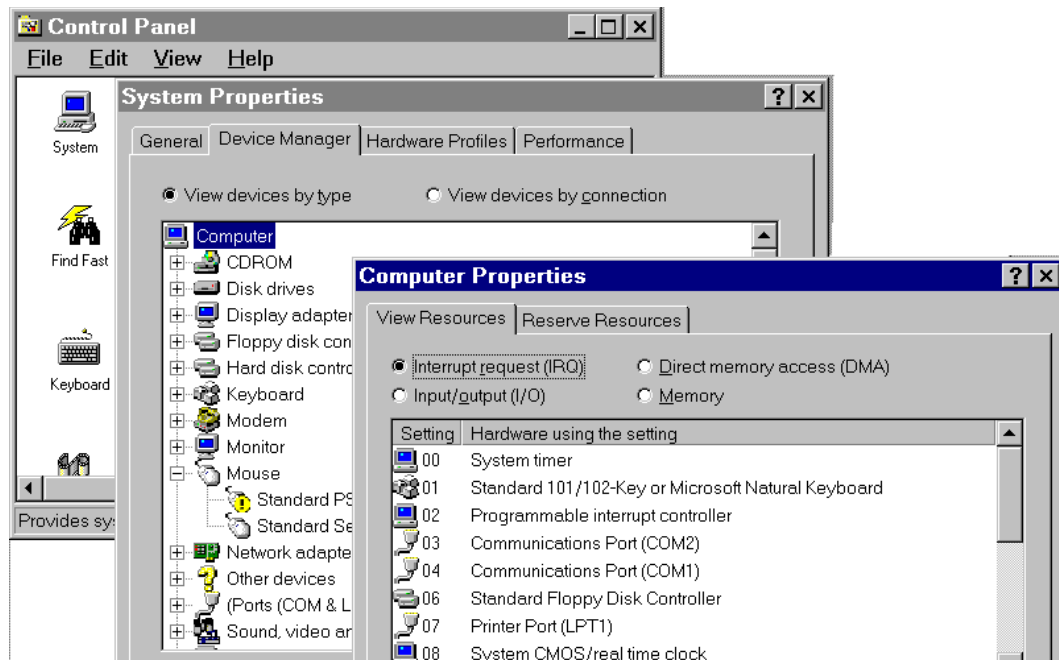

Figure 14
2. Refer to Figures 14 and 15 (on the following page).
- Select Interrupt Request (IRQ) to see which IRQs are in use. (Figure 14)